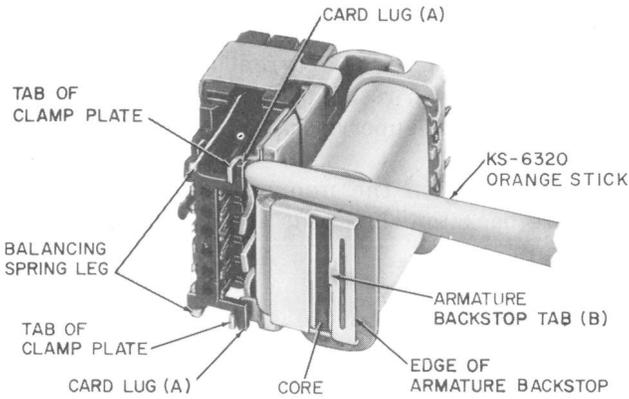

**Fig. 4—Measuring Armature Back Tension**
**2.05 Armature Back Tension** Fig. 4(A)
Use the 70D gauge, as shown in Fig. 4, applied at the center of the armature in front of the clamp plate shown in Fig. 5. Care shall be taken that the reed of the gauge does not touch the cover.